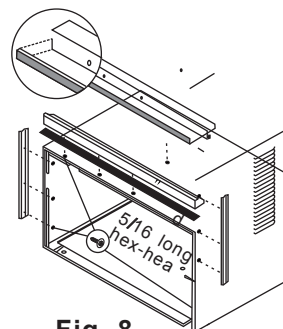

Fig. 8
2. Install top angle and side retainers to cabinet. (See Fig. 8.)